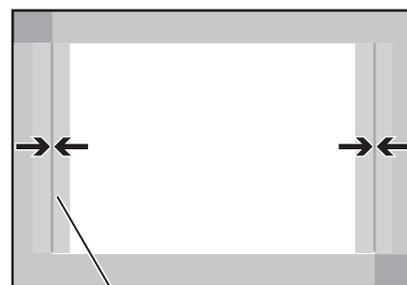

Fig.1-4 Yellow/magenta color offset
- 1) Insert a slot driver into the slot **F** and turn it to move the image vertically as shown in **Fig.1-4**.